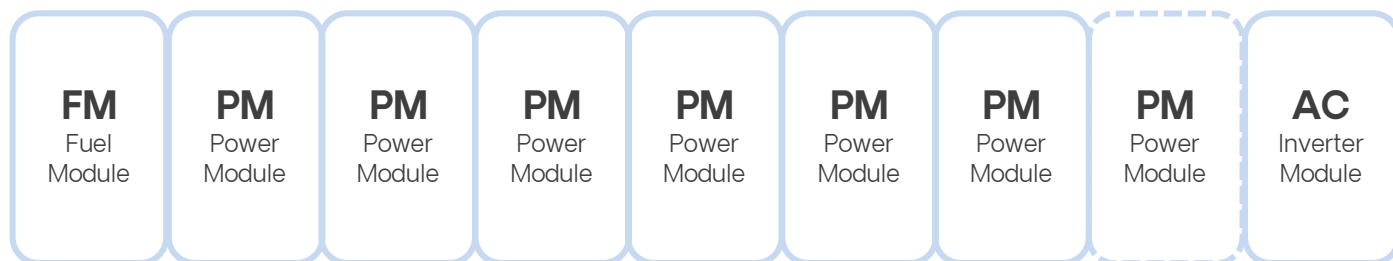

Figure 2: Typical Energy Server layout for 300 kW system
As seen in Table 1, the Energy Server is designed to handle up to a certain amount of H2 blending without any system changes. Since H2 takes up more volume per btu, at levels between 21 and 50%, changes must be made to the Power Modules (PM)'s to allow for this higher volume, and a second Mass Flow Control (MFC) device must be added. The number of PM's in an Energy Server varies based on the size of the system. Figure 2 is a typical 300 kW system which houses 6 PM's and an equipped space. This work can only be performed by a Bloom Certified Service member to maintain the warranty on the equipment and preserve any Bloom Energy performance guarantees.
For high concentrations H2, the Fuel Module (FM) will need to be upgraded to a centralized desulfurization module prior to blend Natural Gas with H2. For a typical 300 kW system as shown in Figure 2, there is only one FM to be upgraded. Once the upgrade has been performed by Bloom Energy, the system contract would be adjusted to account for any expected efficiency losses described in the next section.